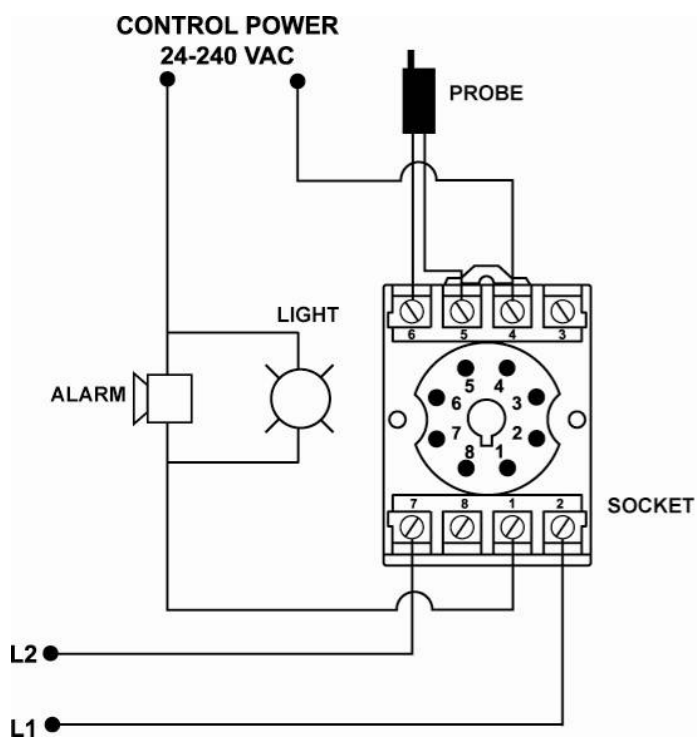

Figure 1: Typical Alarm Wiring Diagram
3. Connect socket terminals 2 and 7 to 120VAC for Model 201-100-SLD or 240VAC for Model 201-200-SLD (see Figure 1).
4. Connect the output relay to the circuitry to be controlled. For alarm operation, connect the common and normally closed (NC) contacts (socket terminals 1 and 4) in series with the alarm circuit as in Figure 1.